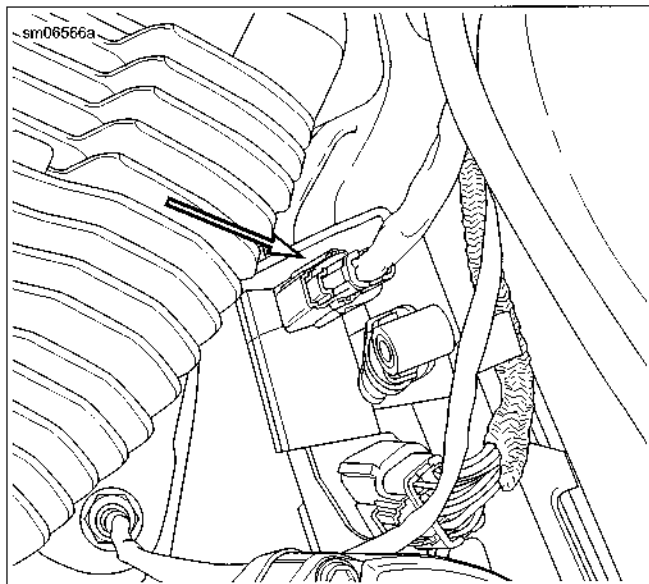

Figure 4-2. Fuel Pump Connector [141]
- b. See Figure 4-2. Separate fuel pump connector [141] housings.